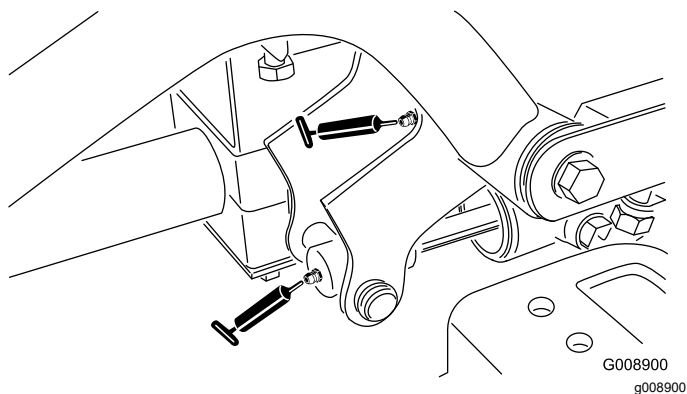

Figure 62
- Right front lift arm pivot and lift cylinder (2) (Figure 62)